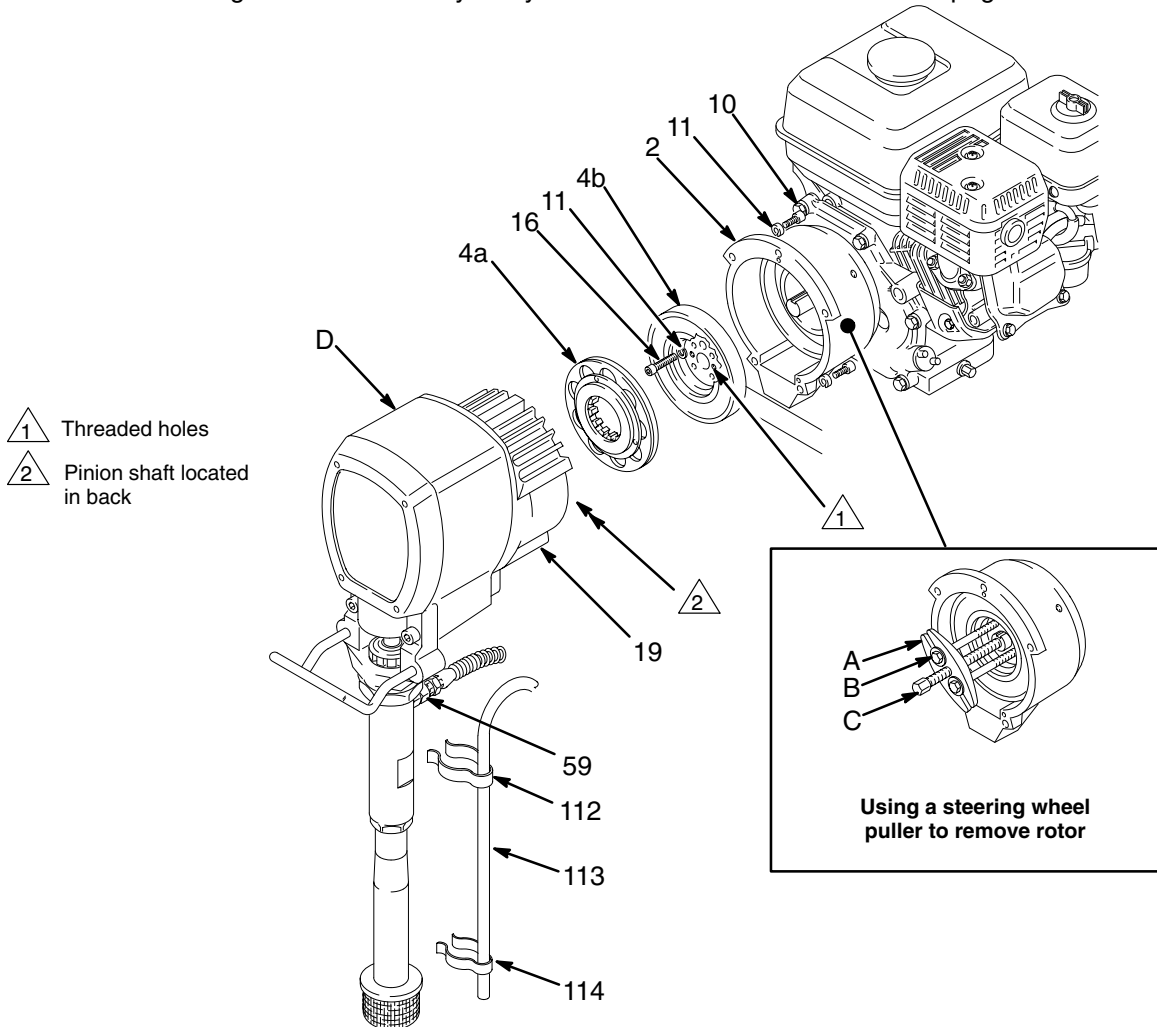

Fig. 11
NOTE: Refer to Fig. 11 for this procedure.
2. Disconnect the hose (59) from the displacement pump. For the upright cart only, remove the spring clips (112, 114) and drain hose (113).
3. Remove the bottom two screws and lockwashers (10, 11) from the front of the clutch housing (2) and then the remaining three of them.
4. Tap lightly on the back of the bearing housing (21) with a plastic mallet to loosen the assembly (D) from the clutch housing. Pull the assembly away.
- a. Remove the four socket head capscrews (16) and lockwashers (11). Install two of the screws in the threaded holes in the rotor. Alternately tighten the screws until the rotor comes off. See Fig. 11.
- b. You can use a standard steering wheel puller (A). However, two 1/4-22- x 3 or 4 in. long screws (B) are also needed. Replace the short screws of the steering wheel puller with the longer screws (B). Turn the screws (B) into the threaded holes of the rotor (4b). Tighten the capscrow (C) of the tool until the rotor comes off. See Fig. 11.